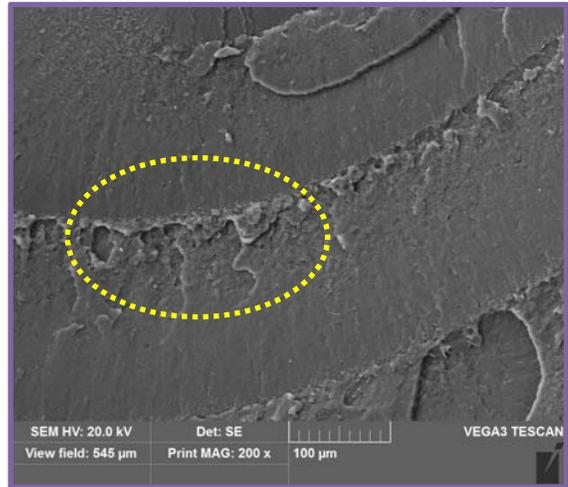

Figure 7 – Scanning electron micrograph showing remnants of an opened craze.
**Craze Remnants:** Crazes are interpenetrating micro-voids with small fibrils bridging the two sides of the micro-voids. Crazing takes place under conditions of constant tension and are load-bearing. If the applied tensile load is sufficient, the bridging fibrils elongate and break, causing the micro-voids to grow and coalesce (Figure 7). Through coalescence of the micro-voids, cracks begin to form.